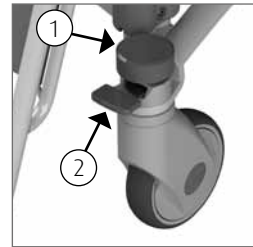

Figure 2 Directional wheel.
- The standard Tango XXL comes with a swivel wheel that is fitted to the left front side of the device (See figure 2). The direction of the wheel can be blocked by pushing the grey cap (1) on the wheel downwards. This makes it easier to push the device over long distances as the chair is less inclined to move sideways.
- In order to remove the blocking, the lip (2) on the wheel must be pushed downwards.